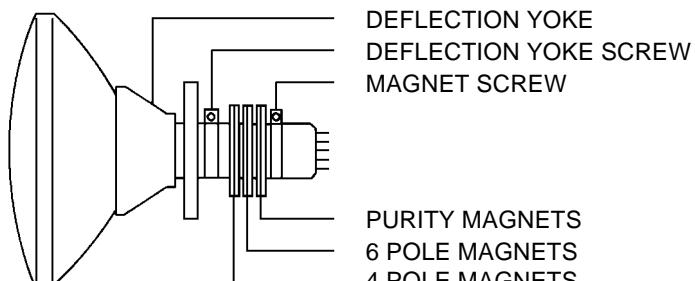

Fig. 3-1
1. Tighten the screw for the magnet. Refer to the adjusted CRT for the position. (**Refer to Fig. 3-1**)